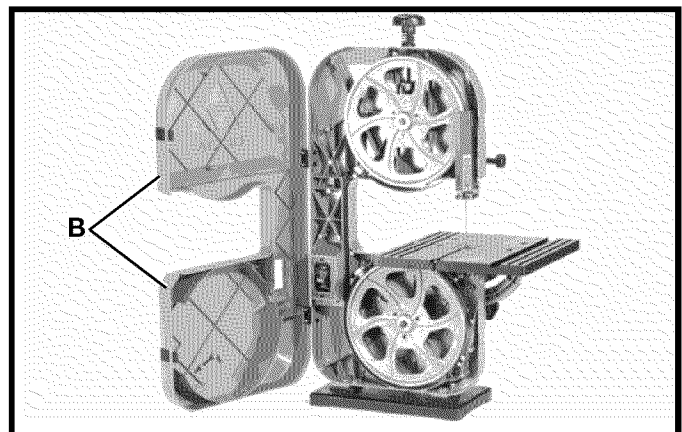

Fig. 23
3. Fig. 23, illustrates door (B) in open position.